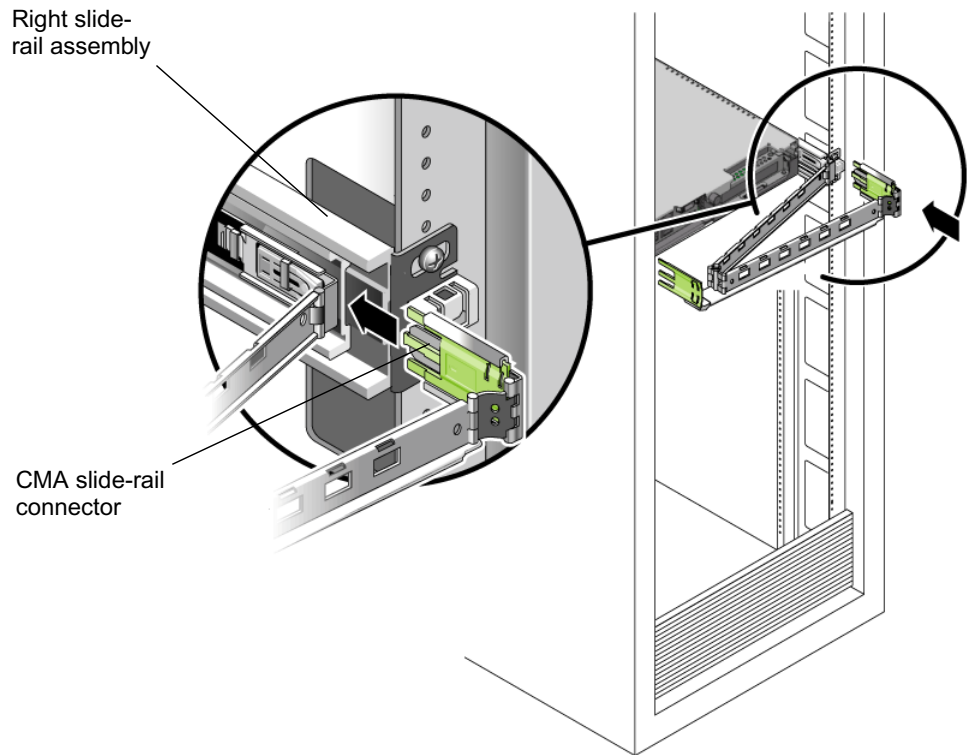

FIGURE C-10 Inserting CMA Slide-Rail Connector Into Back of Right Slide-Rail Assembly
6. Insert the right CMA slide-rail connector into the right slide-rail assembly until the connector locks into place with an audible click. (See FIGURE C-10.)